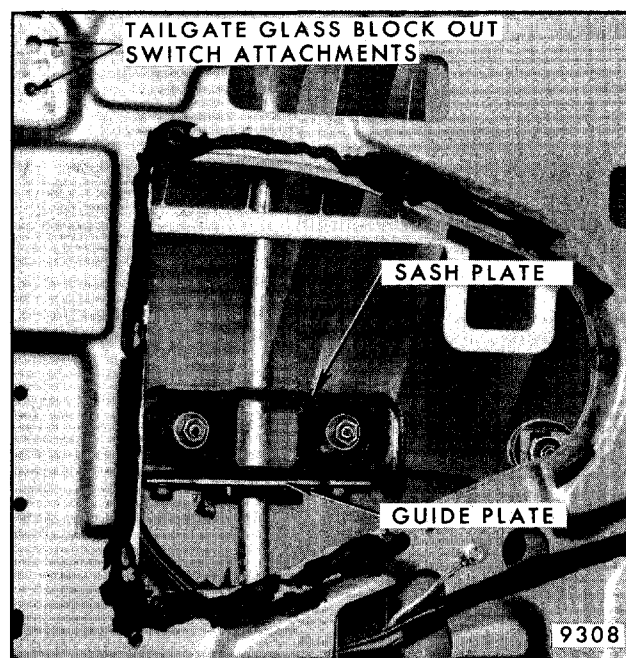

Fig. 7-137 - Tailgate Window Guide Plate Attachments
2. **TAILGATE WINDOW TOO FAR INBOARD OR OUTBOARD ALONG UPPER EDGE** - Loosen tailgate window guide plate attaching nuts, Figure 7-137, on right and left sides and glass stabilizer attaching bolts. With glass in full-up position, position belt trim support retainers against inner surface of glass and tighten bolts. Tighten all previously
2. Remove screws securing switch to right upper lock as shown in Figure 7-137. Disconnect electrical connector and remove switch through access hole.